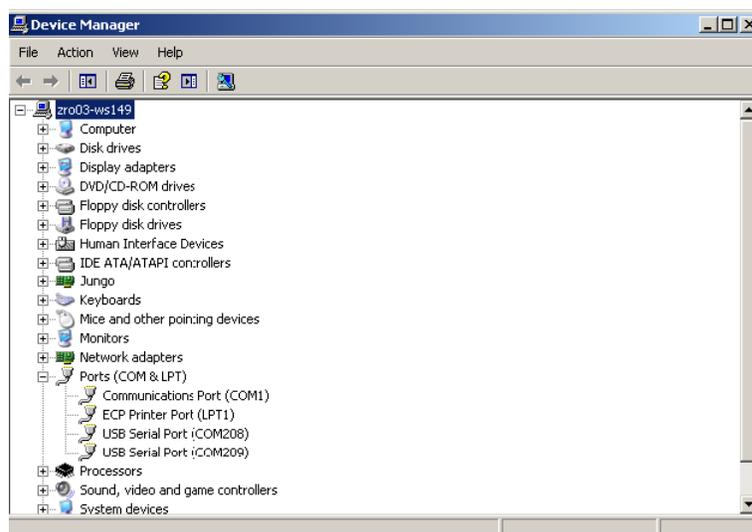

Figure 3-1. COM Ports in Device Manager
2. In the Windows Device Manager, under the Ports (COM & LPT) option, two devices labeled either “Freescale ZigBee/802.15.4 MAC COM Device” or “USB Serial Port” appear as shown in Figure 3-1. (The COM ports shown in Figure 3-1 may be different on other PCs.)